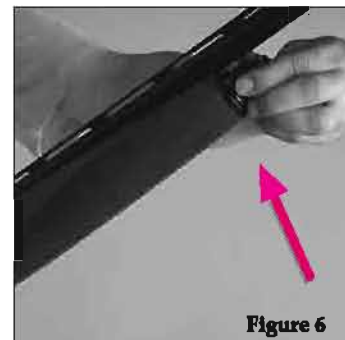

Figure 6
- 4) Unscrew the forend nut and remove it (see figure 6)